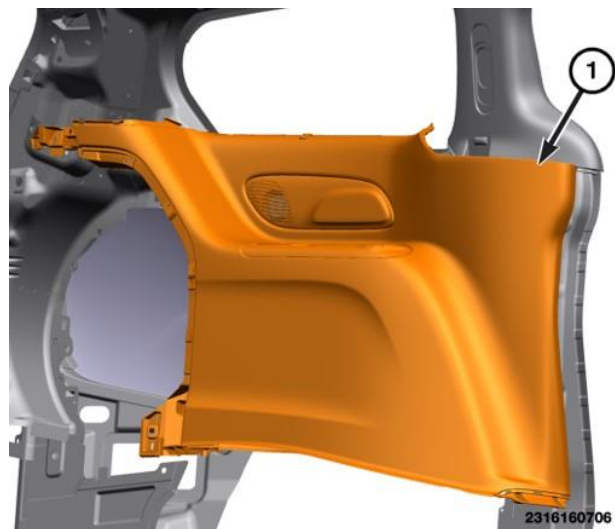

Figure 45 – Quarter Trim Panel
54. Using a trim stick or equivalent, starting at the top and release the fasteners at the front edge the quarter trim panel (1) carefully release the top of the quarter trim panel from the C-pillar trim panel (Figure 45).
61. Connect any electrical connectors to the quarter trim panel (1) then position the quarter trim panel in place. Carefully locate the clips, then hand tap the quarter trim panel to engage the retaining clips (Figure 45).